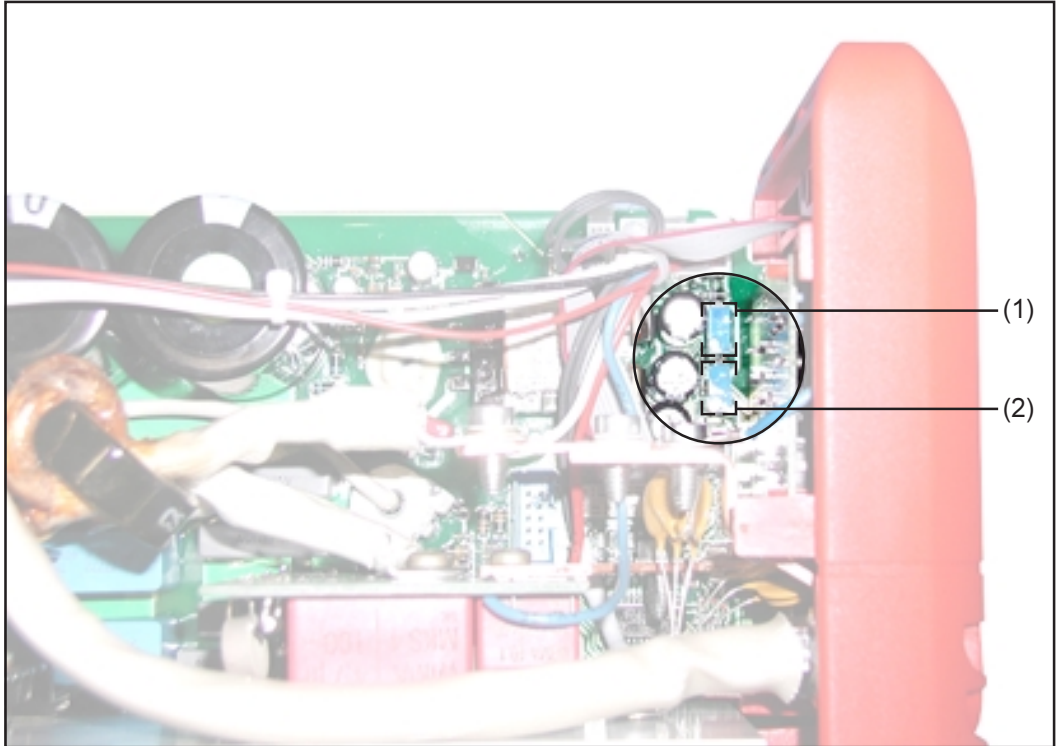

Fig.3 Potentiometer for setting the maximum welding amperage
- Adjust the potentiometer (1) - Fig.3 - on the LCA15 board, until the exact value for the maximum welding current (140 A) is reached
- Adjust the potentiometer (2) - Fig.3 - on the LCA15 board, until the exact value for the maximum welding current (10 A) is reached